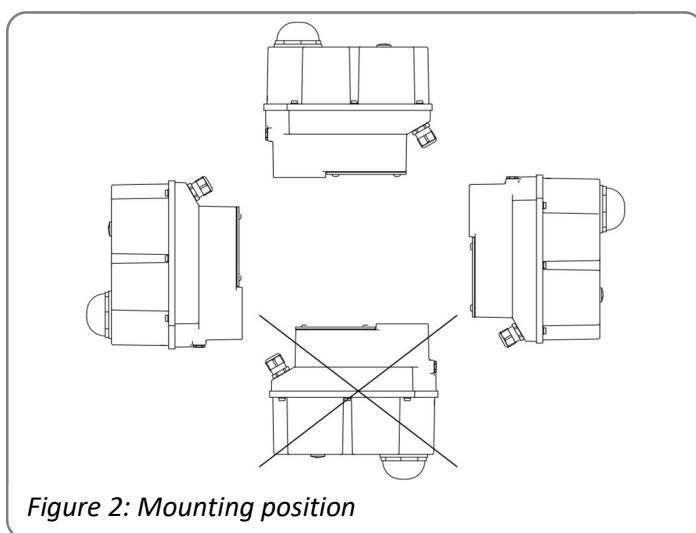

Figure 2: Mounting position
- The mounting position is arbitrary with the exception of “cover downwards” (Figure 2).